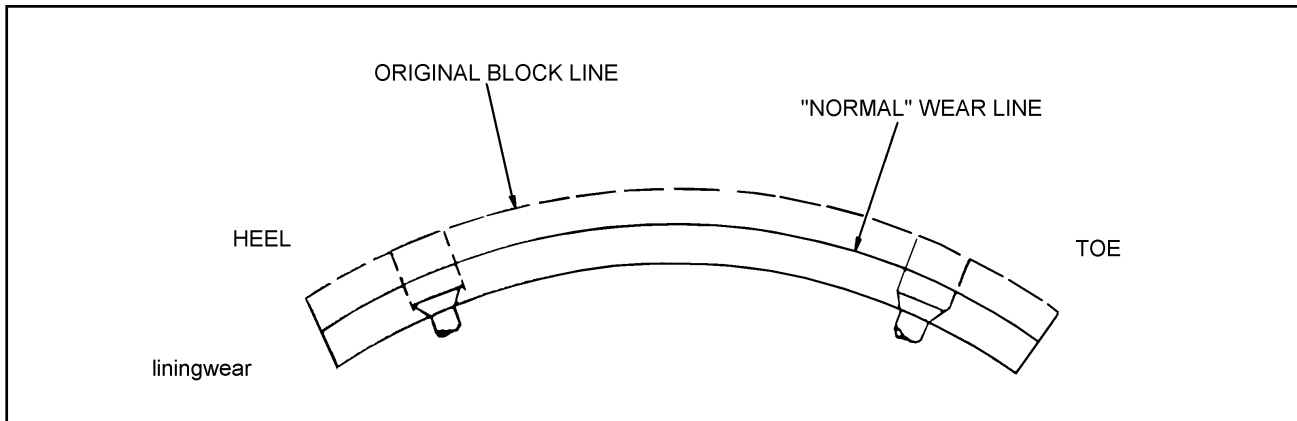

Figure 4-9 Brake Lining Wear
- c. Check brake linings for excessive wear or distortion (**See Figure 4-9**).
The brake assemblies should be inspected and adjusted every 2,000 miles or monthly. Examine the brake linings visually to locate the lining showing the greatest amount of wear. The wheel and drum should be removed and the linings replaced if the thinnest portion of the lining is 3/8 in. (9.5 mm) or less. Do not allow the linings to wear thin enough that the lining rivet contacts the drum. (**See Figure 4-9**).